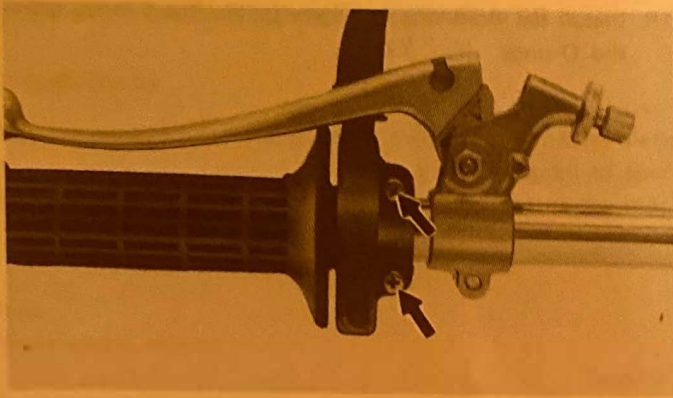

Fig. 23
12. Bolt the upper and lower throttle housing together, and check the throttle grip for smooth action, then fully tighten the throttle housing securing screws. (Fig. 23)